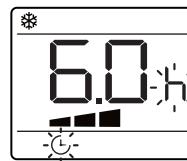

Figure 3
- When the appliance is running, press the  button, the screen will display number of hours and the  symbol and  symbol will flash. See Figure 3 above.